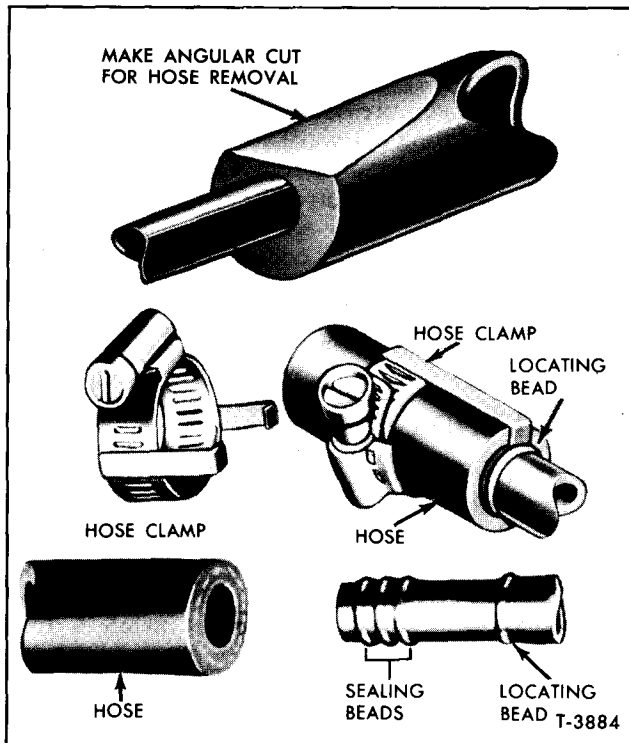

Figure 31—Hose Clamp Connections
1. Carefully, with a sharp knife, make an angle cut in the hose as shown in Figure 31. This should loosen the hose so that it may be worked off the fitting.